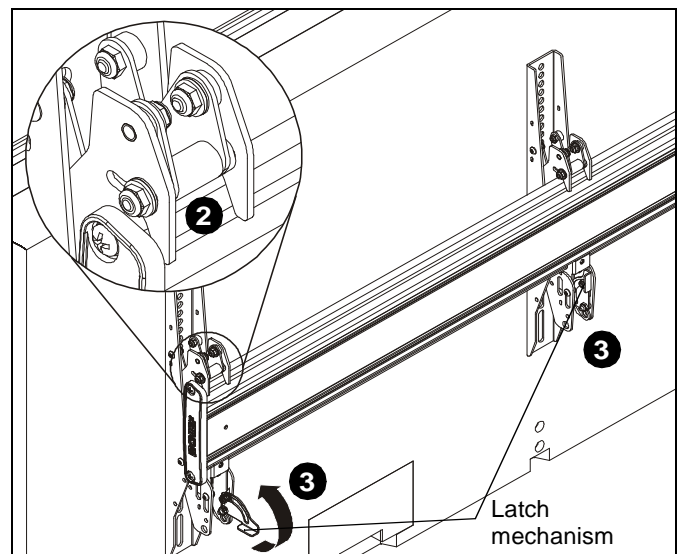

Figure 9
- While supporting both sides of display, lower display onto one side of ceiling mount, hooking top of interface brackets onto rail of ceiling mount. (See Figure 9)
- Raise the latch mechanism on both interface brackets to lock display in place. (See Figure 9)